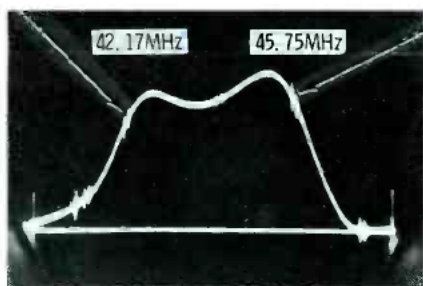
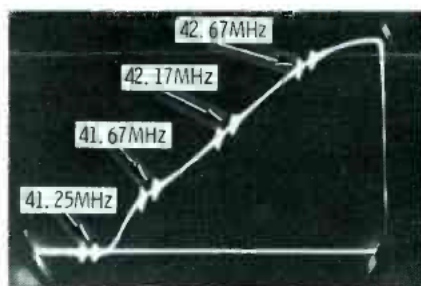

Fig. 7 The normal link curve.
Fig. 8 Expanded sound trap marker for precise adjustment.
**Note:** Admiral advises that the 45.75-MHz side of the curve should be aligned slightly high when the transistorized link-amplifier is used. Link alignment is very important, and the correct curve (Fig. 7) should be obtained before you go on to the next step. Then remove the link-amplifier assembly.
8. Reduce the **sweep width** and adjust the **tuning** dial to a lower frequency to expand and center the 41.25-MHz trap marker, as shown in Fig. 8. Alternately adjust the top core of L7 (A1) and R17 for minimum response at 41.25 MHz. Be precise; satisfactory reduction of the 920-KHz beat pattern depends mainly on this adjustment.
5. Following the component numbering system used in PHOTOFACT folder 949-1, adjust L215 (on the tuner) and L2 (A6 on the IF board) to approximate the curve shown in Fig. 7. Alternately adjust L1 (A2) and R16 (trap balancing control) for minimum response at 47.25 MHz. For better accuracy of the trap adjustment, widen the curve by decreasing the sweep width to about 2 MHz and moving the tuning dial to about 47 MHz to bring the trap marker to the center of the screen, as shown in Fig. 8 (which is the other trap). Increase the scope gain to maximum (if the curve is large enough, allow the top of the curve to extend off the screen), reduce the marker height and adjust L1 and R16 again, being careful that each is set for a definite